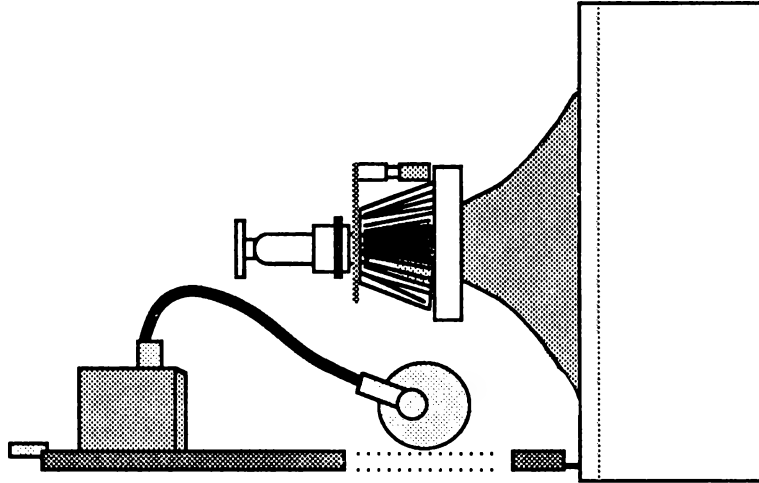

FIGURE 7
3. Set the main logic board close to the CRT unit, with the edge near the tabs and channels it will slide into (Figure 7).